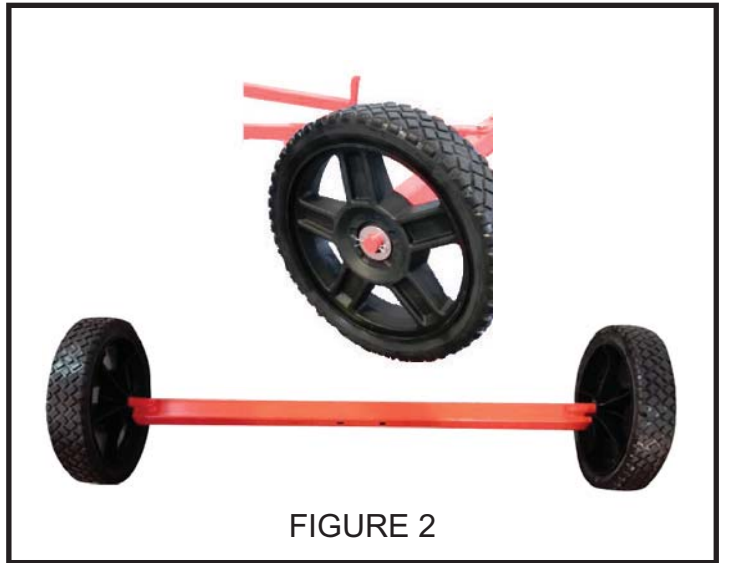

FIGURE 2
- 2) Attach the wheels (17) to the wheel pole (1) by sliding the wheels over each end and securing with the flat washer (14) and cotter pins (16) provided in the hardware kit as shown in figure 2.